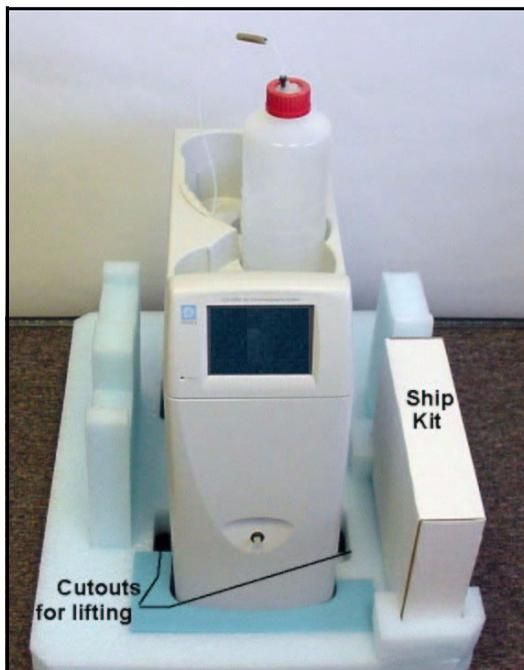

Figure B-3. ICS-1500 with Ship Kit
3. Remove the next layer of foam and remove the Ship Kit box (see Figure B-3).
4. The bottom foam layer has two cutouts on either side of the ICS-1500 module; use these as hand holds when lifting the module (see Figure B-3).